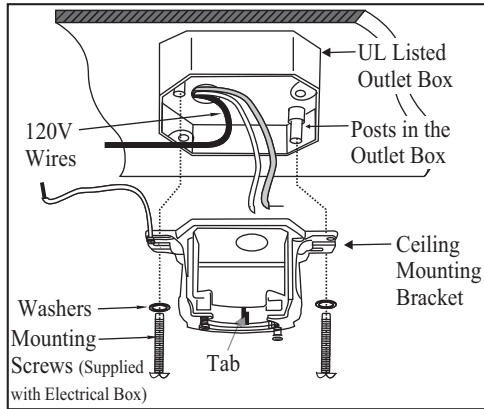

Figure 6
1. Pass the 120-volt supply wires through the center hole in the ceiling mounting bracket as shown in Figure 6.
2. Install the ceiling mounting bracket to the outlet box; be sure to align the holes in the hanger bracket with the post holes in the outlet box and secure with screws and washers provided by the outlet box (Fig. 6).